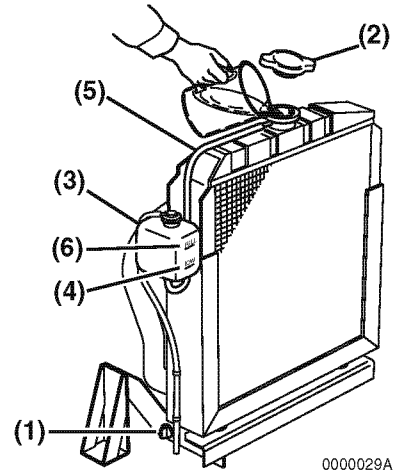
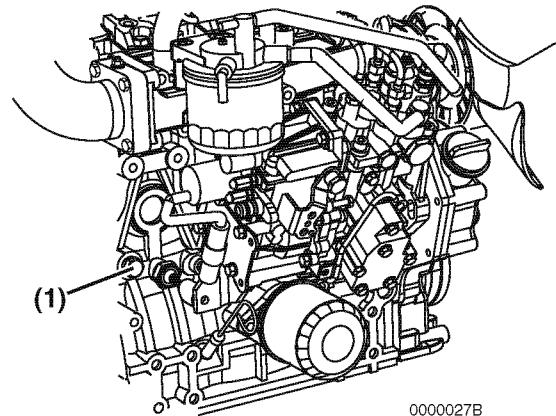
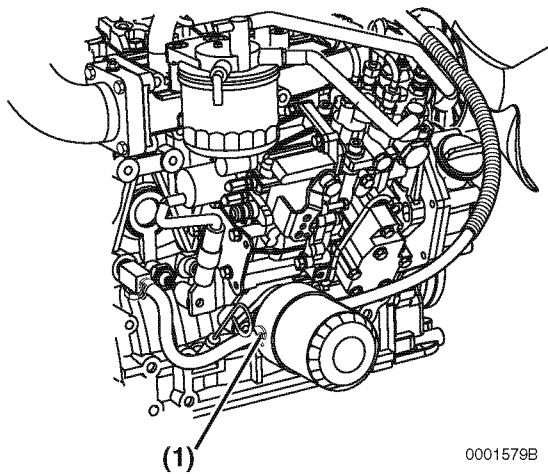

Figure 5
Figure 6
Figure 7
1. Check to be sure the radiator drain plug is installed and tightened or the drain cock (**Figure 5, (1)**) is closed. Also make sure the coolant drain plug (**Figure 6, (1)**) in the cylinder block is closed and the coolant hoses (**Figure 7, (1)**) are installed at the oil cooler.
2. Remove the radiator cap (**Figure 5, (2)**) by turning it counterclockwise about 1/3 of a turn.
4. Reinstall the radiator cap (**Figure 5, (2)**). Align the tabs on the back side of the radiator cap with the notches on the engine coolant filler port. Press down and turn the cap clockwise about 1/3 of a turn.
5. Remove the cap of the reserve tank (**Figure 5, (3)**), and fill it to the LOW (COLD) mark (**Figure 5, (4)**) with engine coolant. Reinstall the cap.
6. Check the hose (**Figure 5, (5)**) that connects the reserve tank (**Figure 5, (3)**) to the radiator. Be sure it is securely connected and there are no cracks or damage. If the hose is damaged, engine coolant will leak out instead of going into the reserve tank.
7. Run the engine until it reaches operating temperature. Check the level of engine coolant in the reserve tank. When the engine is running and the engine coolant is at normal temperature, the coolant level in the reserve tank should be at or near the FULL (HOT) mark (**Figure 5, (6)**). If the coolant is not at the FULL (HOT) mark, add coolant to the reserve tank to bring the coolant level to the FULL (HOT) mark.
1. Check the level of engine coolant in the reserve tank. When the engine is cold, the coolant level in the tank should be at or slightly above the LOW (COLD) mark (**Figure 5, (4)**) on the coolant reserve tank.
If the coolant level is at the FULL (HOT) mark (**Figure 5, (6)**) when the engine is cold, the coolant will expand when it becomes hot and possibly spray out of the overflow hose.